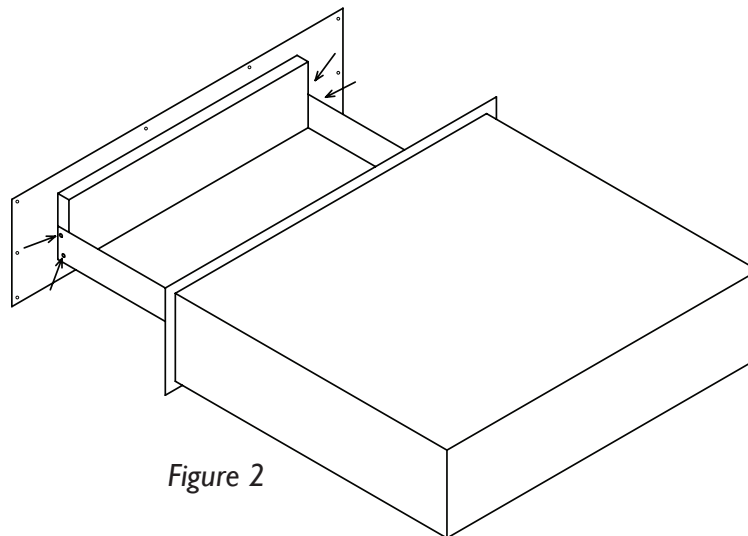

Figure 2
- Loosen the two screws on the inner left and right side of the drawer, as shown in *Figure 2*, and remove the panel from the appliance drawer.